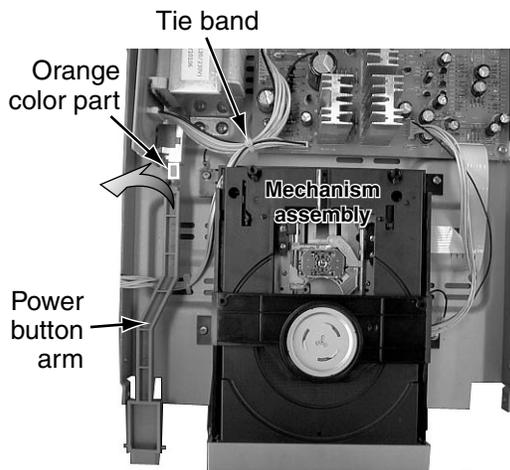

Fig. 6
### ■ Removing the power button arm (See Fig.6)
### ■ Removing the mechanism assembly (See Fig.6)
■ Removing the power transformer (See Fig.6~8)